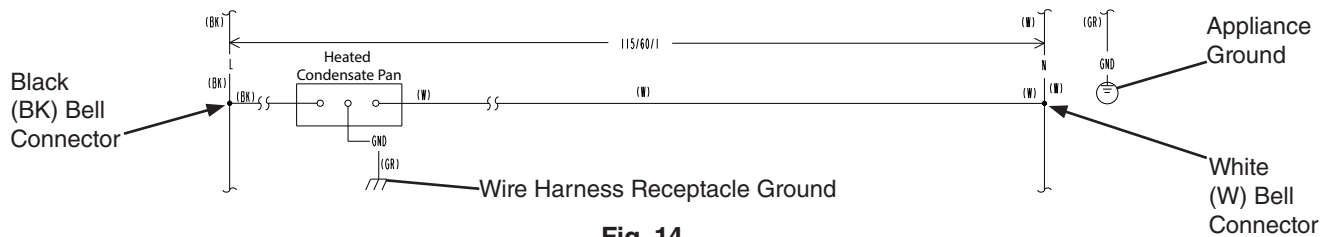

Fig. 14
- 9) Confirm the appliance is unplugged from the electrical outlet. Next, locate the power supply neutral white (W) wire. Leaving plenty of slack, cut the power supply neutral white (W) wire.
- 10) Strip both ends of the power supply neutral white (W) wire cut in step 9 a 1/4" (6.35 mm) back from the ends. Place the wire harness receptacle provided in this kit, white (W) wire and the 2 power supply neutral white (W) wires just cut and stripped, in a bell connector provided in this kit, and tighten. See Fig. 14.
- 11) Next, locate the power supply black (BK) wire. Leaving plenty of slack, cut the power supply black (BK) wire.
- 12) Strip both ends of the power supply black (BK) wire cut in step 11 a 1/4" (6.35 mm) back from the ends. Place the wire harness receptacle black (BK) wire and the 2 power supply black (BK) wires just cut and stripped, in a bell connector, and tighten.